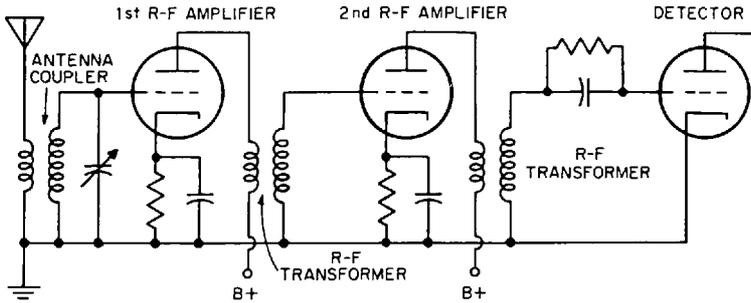

Fig. 23-1. Diagram showing the circuit of two transformer-coupled radio-frequency amplifier stages.
**The Tuned Radio-Frequency Transformer.** If you examine Figure 23-1, you will see that the radio-frequency transformer resembles the antenna coupler. The only difference is that the secondary winding of the antenna coupler is in a tuning or “tuned” circuit, whereas the secondary of the radio-frequency transformer is not. However, it was soon discovered that certain advantages could be gained if the secondary of the radio-frequency transformer was made a part of a tuned circuit by connecting it with a